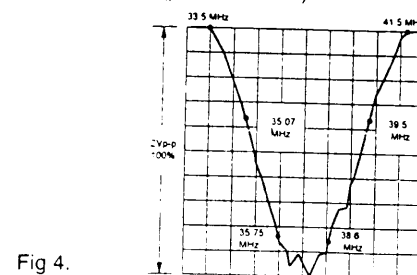

Fig 4.
Preparation Step (see fig. 4)
- Adjust tuner converter coil to obtain the waveform as in fig. 4.